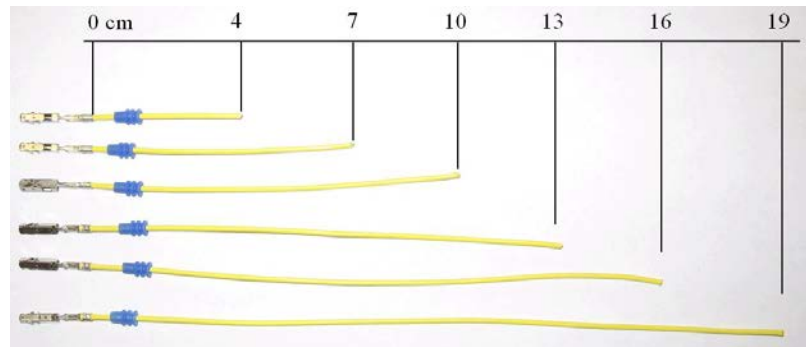

Figure 1. Correctly preassembled wires and seals.
3. Lengthen wires and preassemble seals as shown (Figure 1).